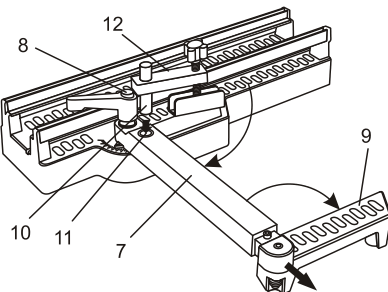

Fig. 12
4. Rotate the inner support arm (7) away from the main housing approximately 90° and lock it in place by turning the miter adjusting lever clockwise.
NOTE: The miter adjusting lever can be repositioned by pressing on the spring loaded button (8) in the top of the lever (Fig. 12).
5. Rotate the outer support arm (9) so it is pointing toward the operator and is parallel with the main housing.